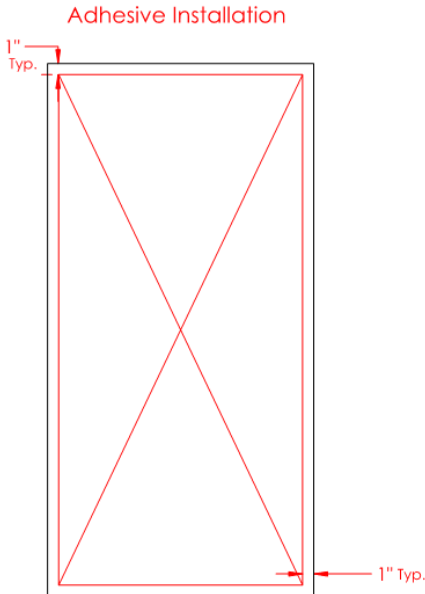

Figure 1: Construction adhesive application for 2'x4' 3-Point or Triangular Wedge Panel. Same adhesive application applies to 2'x2', 1'x1', etc.
- 7) To maximize bonding process, use pressure to apply a ¼" bead of adhesive to back of acoustical panel around the full perimeter of the panel, applied to within 1" of panel edges. Use the diagram shown in Figure 1 below as a guide.
- 8) Using pressure apply a ¼" bead of adhesive from opposite corners through the center of the panel, forming an "X". Use the diagram shown in Figure 1 below as a guide.